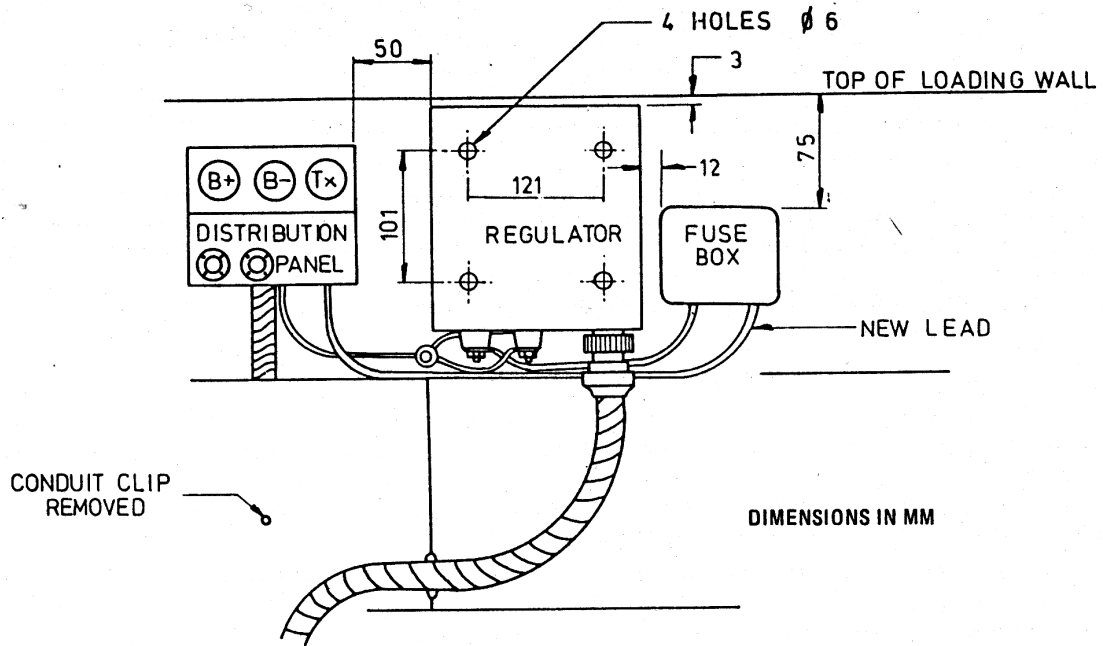

FIG 1 - FITTING DETAILS FOR FUSE BOX AND REGULATOR
12. Relocate and install the regulator and fuse box as detailed in Fig 1.